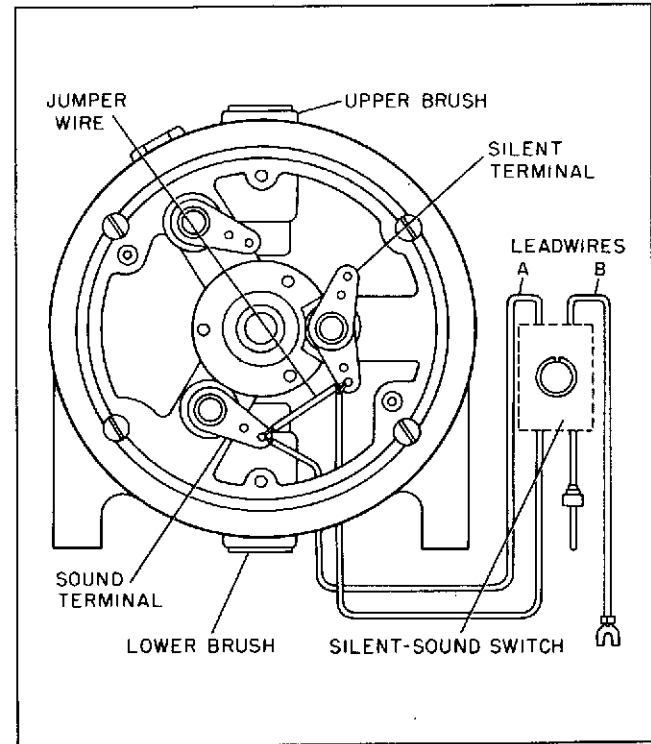

Figure Z-1. Converting Sound-Only Projectors to Silent-Sound Operation
- b. Remove the motor brush housing (paragraph 8) to expose leadwire terminals as shown in figure Z-1. Connect jumper wire (B & H No. 430875) between the silent and sound terminal lugs as indicated.
- c. Cut leadwires A and B (figure Z-1) as shown, and reconnect cut ends of these wires to the terminals of the silent-sound switch to complete the rewiring. Reinstall the motor brush housing.